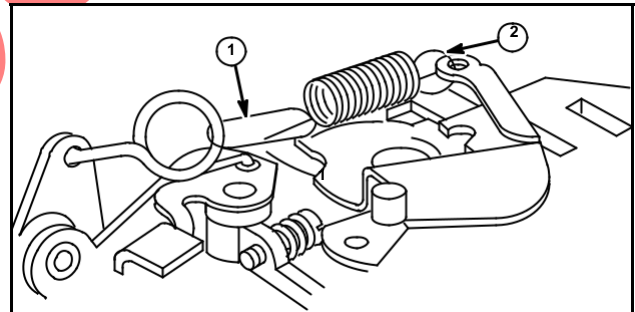

Fig. 51
Governor spring should be installed as shown in Fig. 51, with large loop (1) horizontal, small loop (2) vertical.
Install governor spring as shown in Fig. 51.